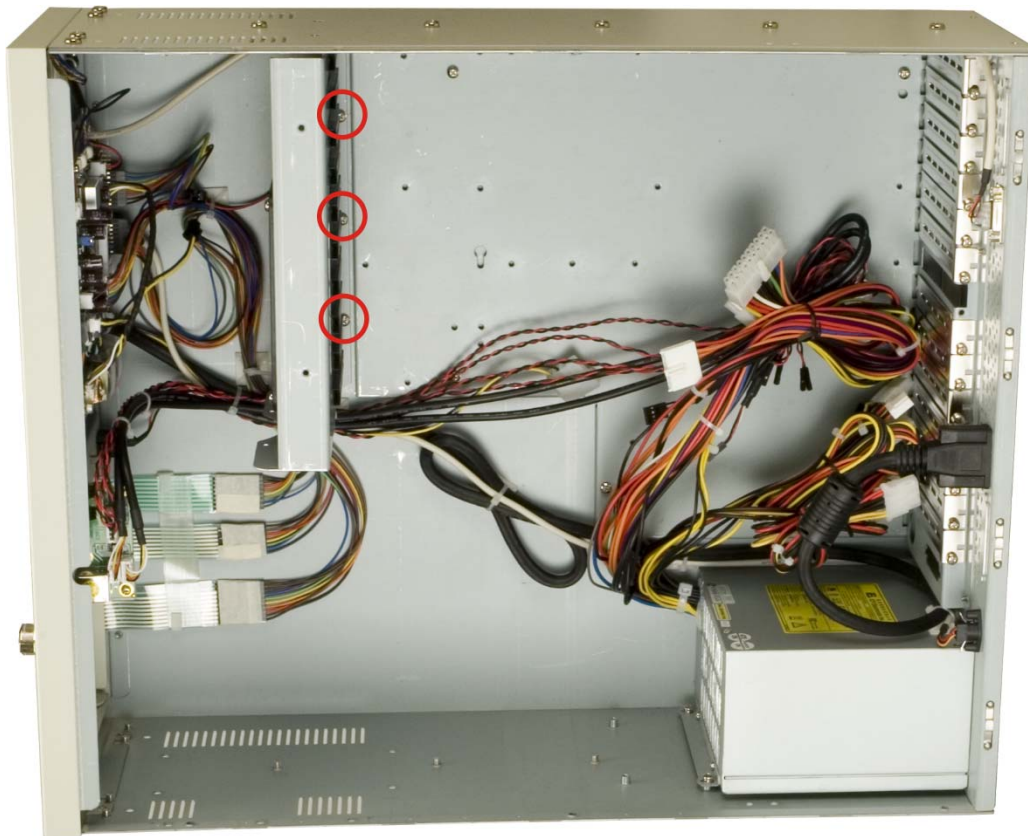

Figure 5-5: Cooling Fan Bracket Bottom Panel Screws
Step 9: Remove the three retention screws that secure the cooling fan bracket to the bottom of the workstation. (See **Figure 5-5**)